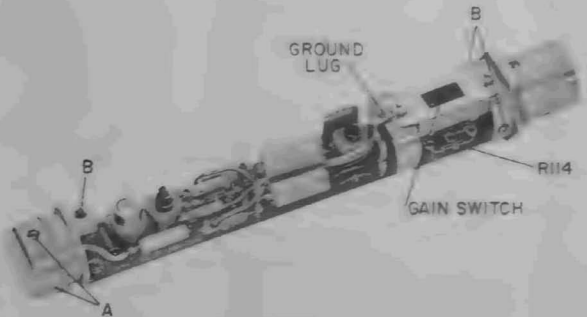

Figure 3-1. Interior view of the preamplifier.
- a. Turn in the two screws (A, Figure 3-1), using the hexagonal wrench provided.
Connect the preamplifier to its source of power (refer to Section 2) and connect the input signal to the preamplifier by means of the correct adapter. Set the gain switch (see Figure 3-1) to the desired gain, either X1 or X10, as engraved on the switch.
the preamplifier (refer to paragraph 4.3.2). Then remove the screw holding the ground lug at the end of the gain switch (see Figure 3-1). Bend the connecting lead so that the lug can not contact the shell or any part of the circuit. Then replace the screw. Also, be sure that the circuit is not grounded to the shell by the input or output connector. If cable connections are used, a two-conductor shielded cable for the input and a three-conductor shielded cable for the output are required. The shields must connect to the shell. The low side of the preamplifier circuit connects to terminal #1 of the three-terminal output plug.
Attach the microphone to the preamplifier as described in paragraph 3.1. Connect the preamplifier to its power source and to the measuring instrument (which may also be the power source; refer to paragraphs 2.3 through 2.5). Slide the gain switch (see Figure 3-1) to the desired gain, X1 or X10, as engraved on the switch. When the gain is X10, subtract 20 dB from the decibel reading of the measuring instrument to obtain the noise level at the microphone.